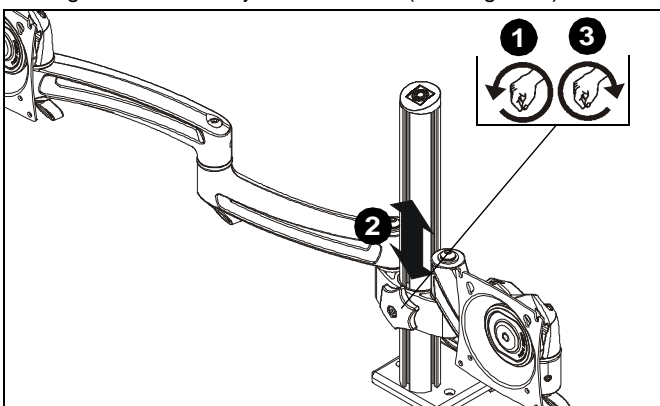

Figure 5
1. Loosen column adjustment knob. (See Figure 5)
2. Adjust height to desired level. (See Figure 5)
3. Tighten column adjustment knob. (See Figure 5)